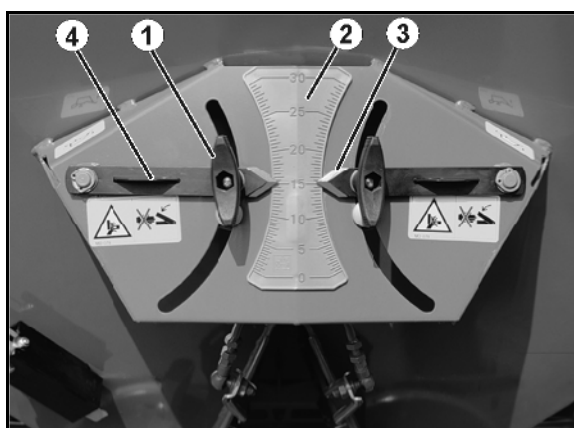

Fig. 64
2. Unscrew the clamping lever (Fig. 64/2).
3. On the scale (Fig. 64/1), locate the scale value for the slider position you have taken from the setting chart or determined using the calibration kit.
4. Set the read-off edge (Fig. 64/4) of the needle (Fig. 64/3) to the scale value.
5. Retighten the clamping lever (Fig. 64/2).